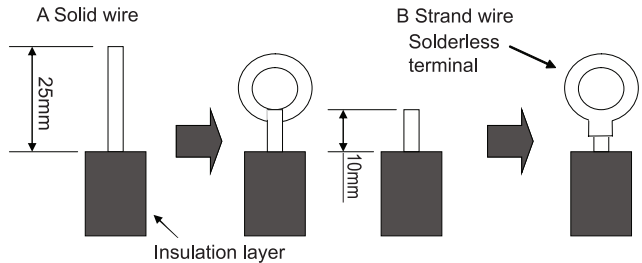

Fig.39
(1). For solid core wiring (Fig.39)
(2). For strand wiring (Fig.39)